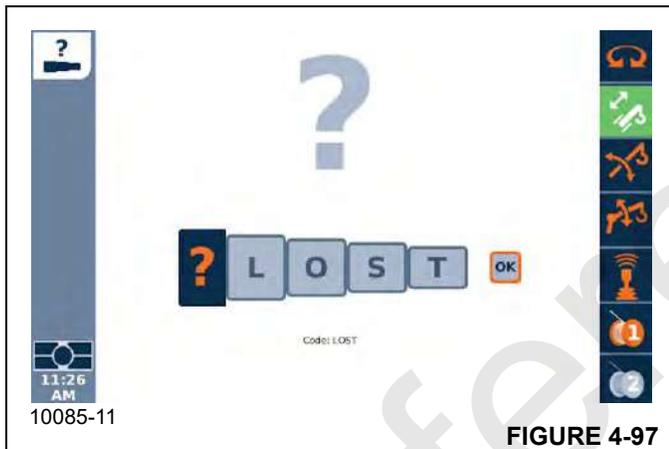
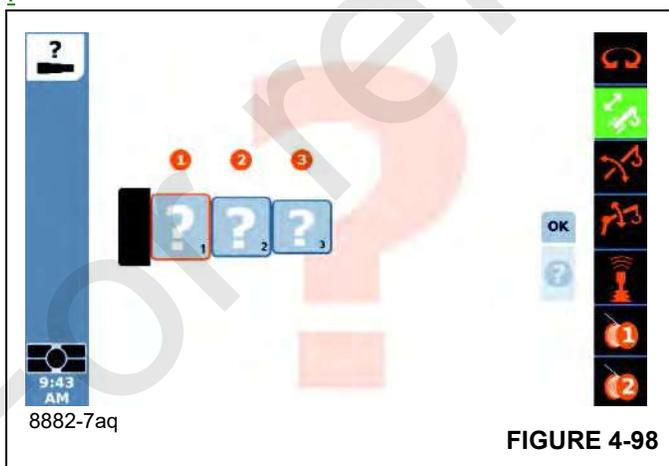

FIGURE 4-97
FIGURE 4-98
The request reset telescoping screen appears as shown in (Figure 4-97). This screen is for entering a confirmation code. The confirmation code is L-O-S-T. When these letters are entered on the screen, then an Enter button can be used on the OK (Figure 4-97) shown on the screen. If this is the correct code, then the reset telescoping screen appears as shown in Figure 4-98.
- In the reset telescoping screen, as shown in Figure 4-98, the operator can indicate the current boom configuration (“actual tele picture”). It is seen that there are 3 available boxes (for the 3 telescoping boom sections). Each of these spin boxes can be used to change to one of the following: